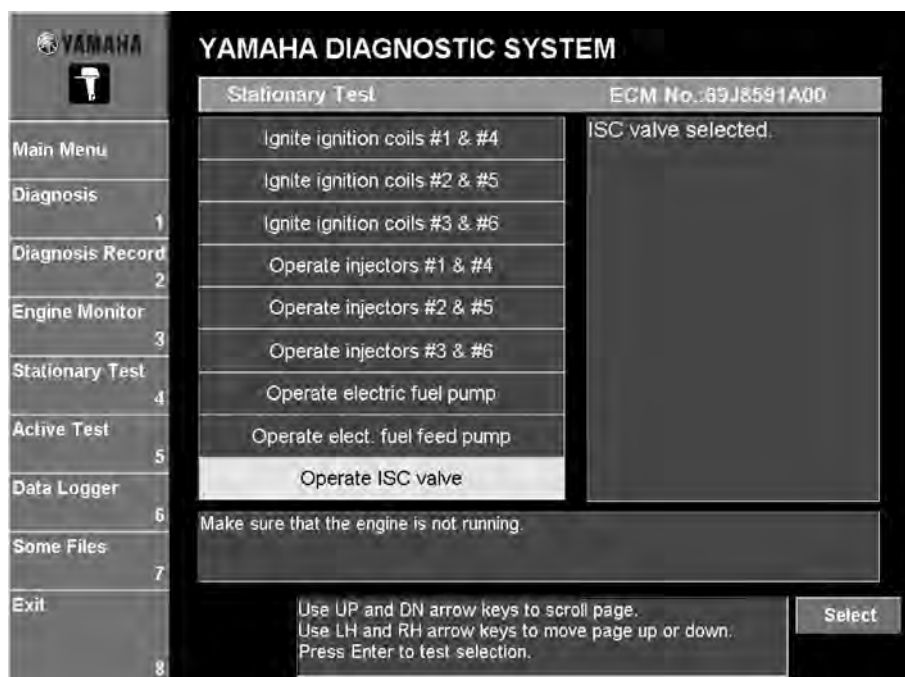

Fig. 88
1. Select the test to be performed, and then click the **Select** button or press the Enter key on your keyboard. (Fig. 88)